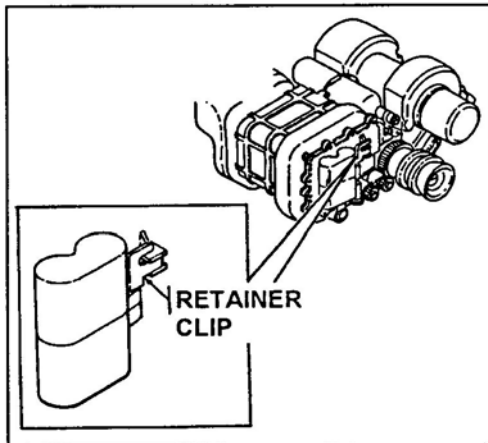

Figure 7. Closing of the Battery Retainer Clip
- (4) Move the battery retainer clip over the battery into the closed position (Figure 7).